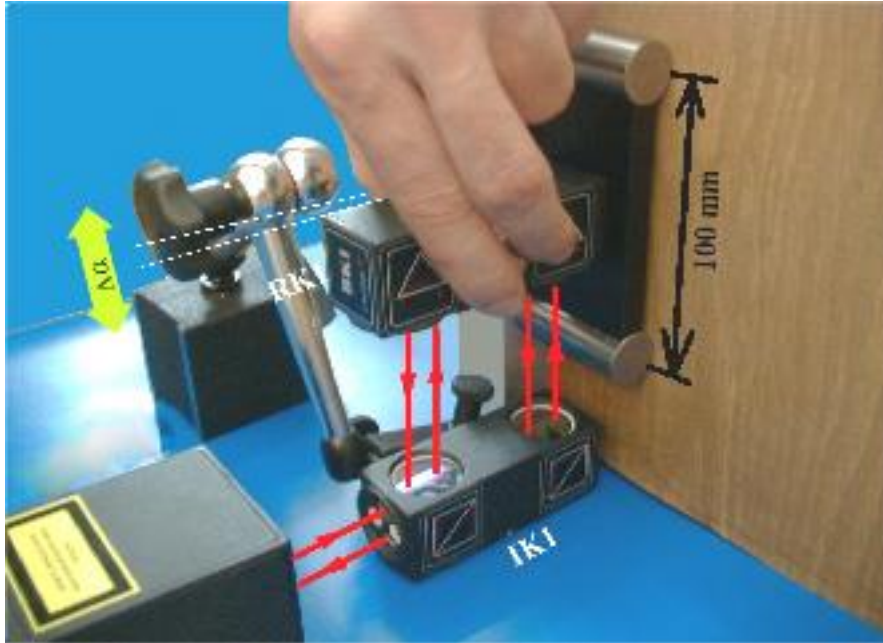

FIG.7.9 OPTICAL PATH SET UP FOR ANGULAR STRAIGHTNESS
7.8) but also in directions perpendicular to the laser beam. Such configuration is shown in figure 7.9. In this configuration only the retro-reflector RK1 can be moved.